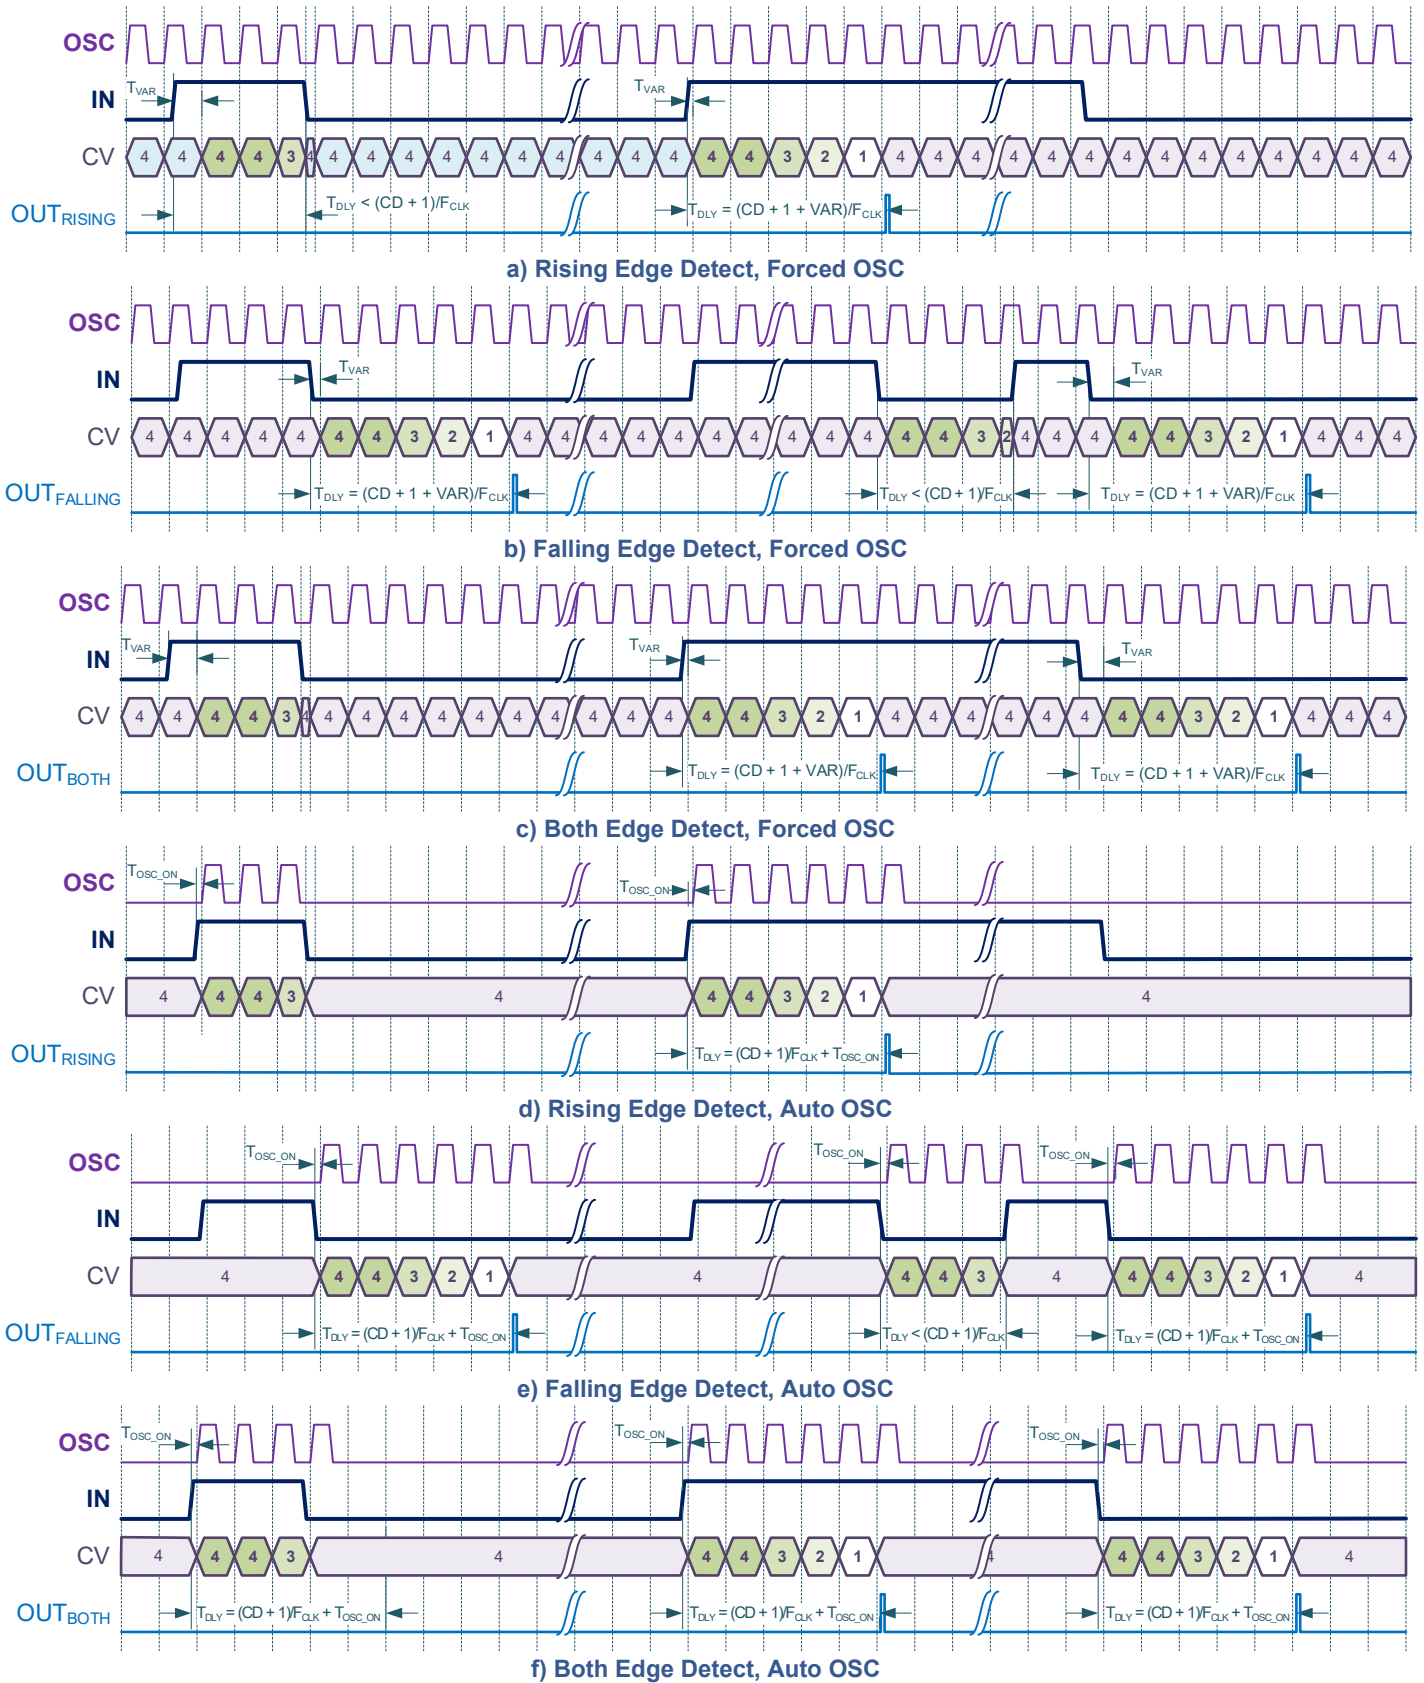

Figure 7.13. Delay Edge Detector Mode (Control Data: 4)
In the Delayed Edge Detector mode the TMR generates delayed short high level pulse (for non-inverted polarity) when detecting the respective selected edge event (rising edge, falling edge, both edges). The delay time is determined by the Control Data, input clock signal and selected divider value. The timing diagrams of this mode is shown in the Figure 7.13.
- Delayed Edge Detector (Figure 7.13)